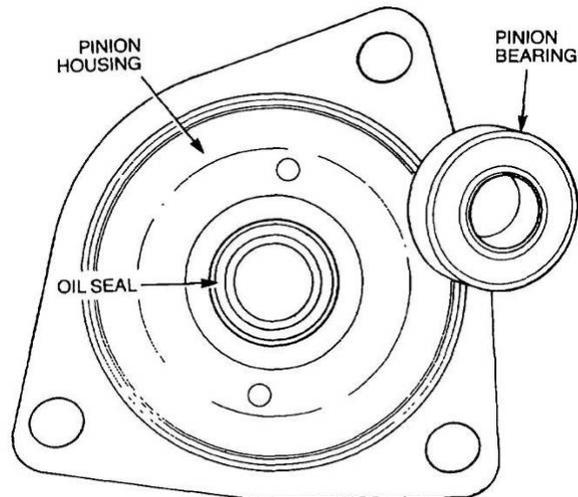

Figure 307 Removal of the Pinion Bearing and Seal
- m. Remove the bearing and the oil seal from the pinion housing (Figure 307).